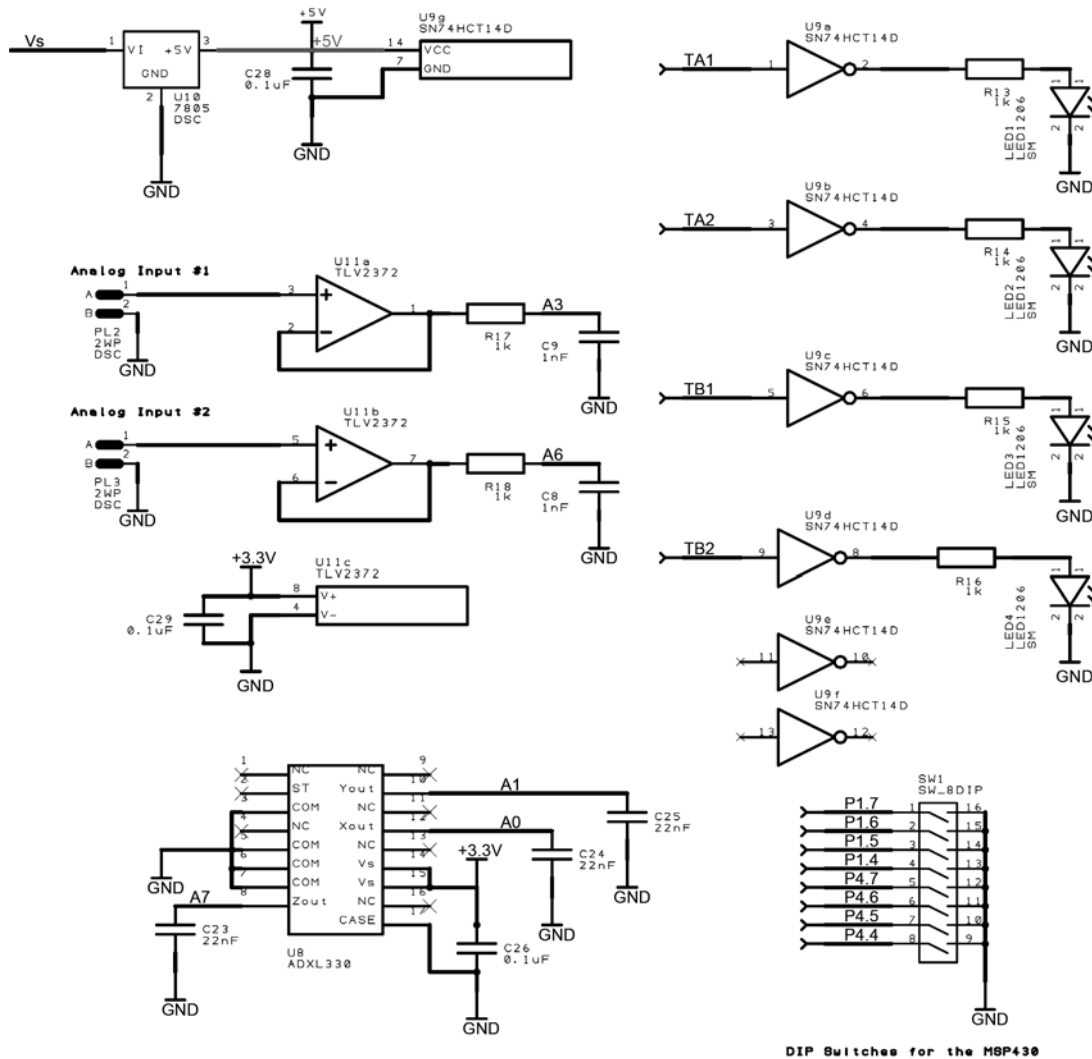

Figure 1: Custom block reference design
For folks who are new to electronics design, an example design has been created for your reference. It is entirely appropriate to copy some or all of this design as your custom circuit block. The reference design, shown in Figure 1, includes a 3-axis MEMS accelerometer and several
- Check that the power and ground connections for each active component are connected. There's nothing more embarrassing than forgetting to hook up power. A good check is to highlight the power and ground nets with a different color (see Fig. 1).